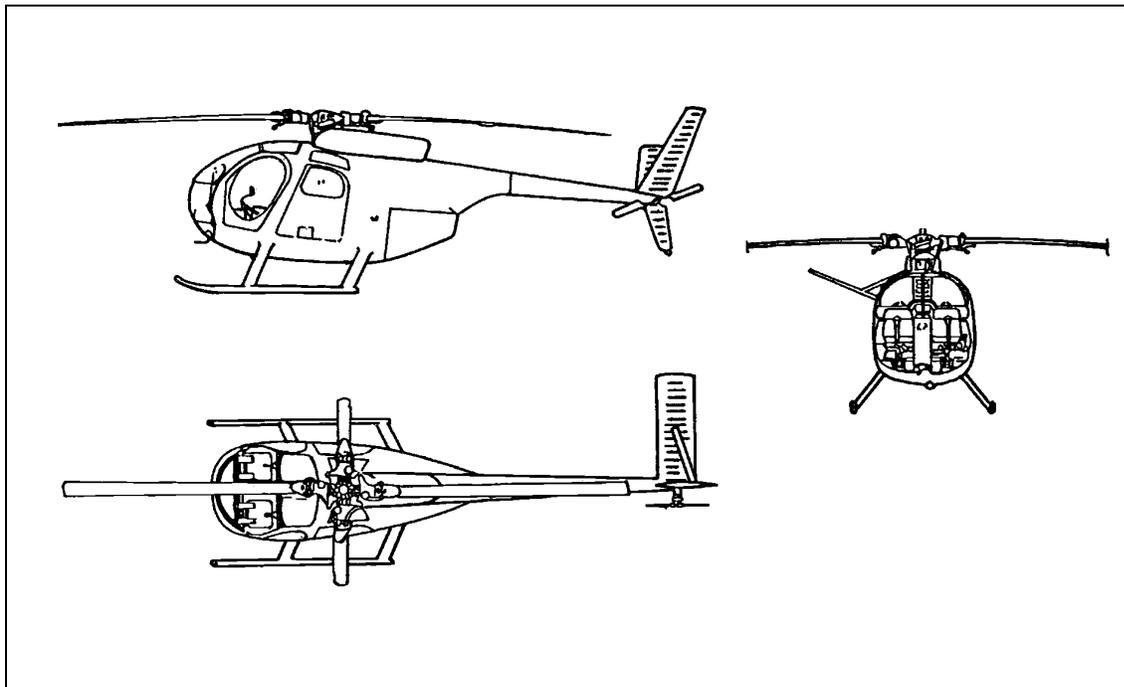

**Figure B-1. OH-58D (Kiowa).**
a. **OH-58D Kiowa.** Table B-1 shows specifications for the Kiowa; Figure B-1 shows the aircraft from three angles: